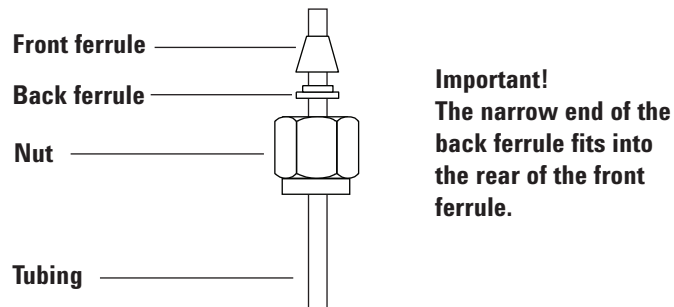

Figure 14. Swagelok nuts and ferrules
- 1 Place a Swagelok nut, back ferrule, and front ferrule on the tubing as shown in **Figure 14**.